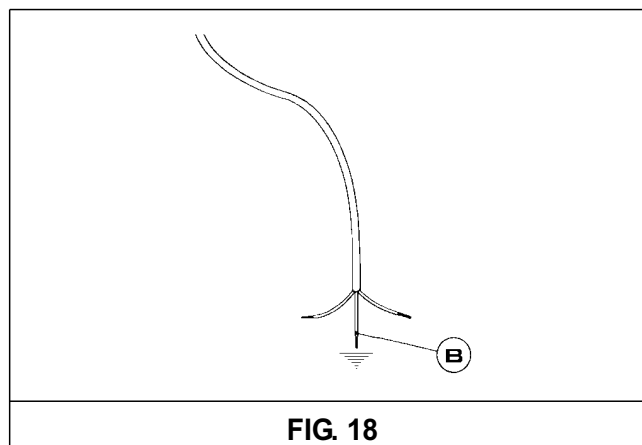

FIG. 18
*When replacing the power cable, the fitter must keep the earth conductor "B" longer than the phase conductor (fig. 18) and must also observe the warnings indicated in paragraph 8.*